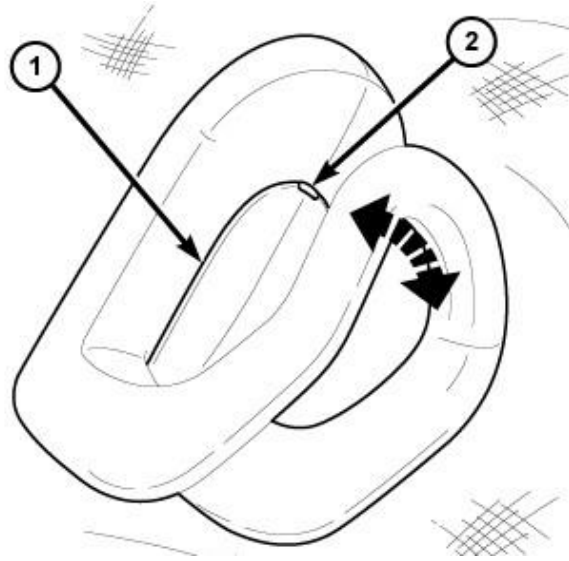

Figure 25 – Coat Hook
- Using a small flat bladed tool, open the coat hook screw cover (2) then remove the screw and coat hook (Figure 25).